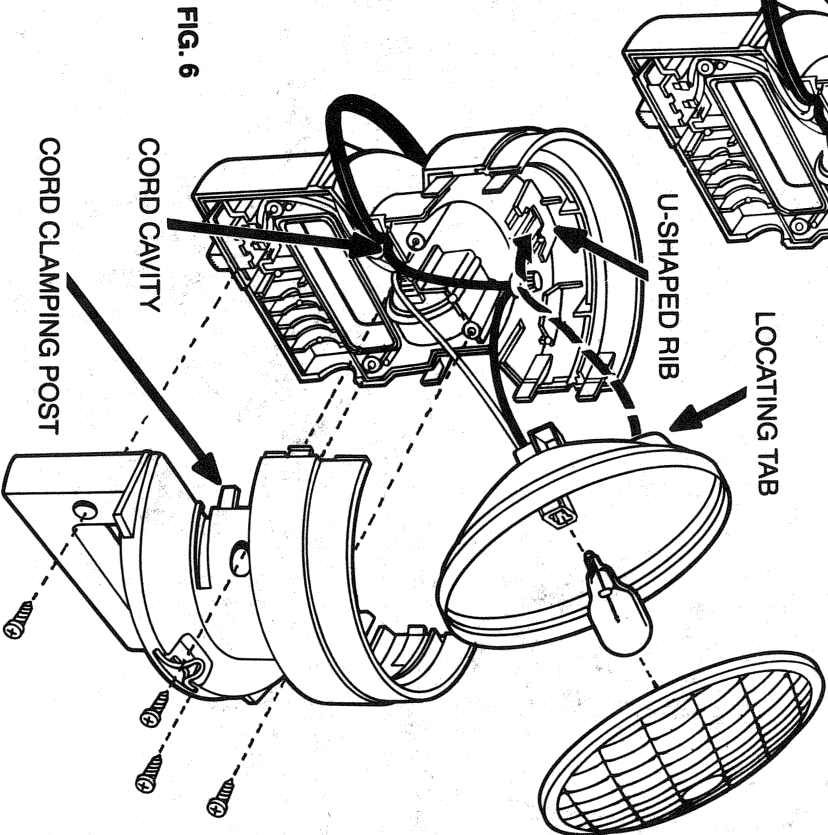

FIG. 6
9. Make sure that the flasher, switch and wiring are in their proper places and that no wires extend above the edge of the housing half that will be pinched during final assembly. (see Figure 6)